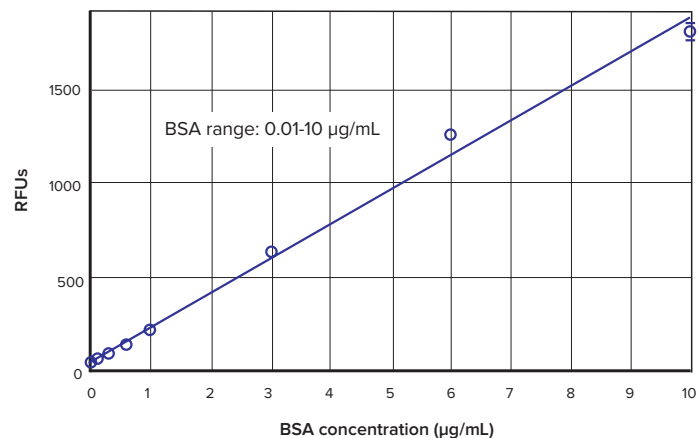
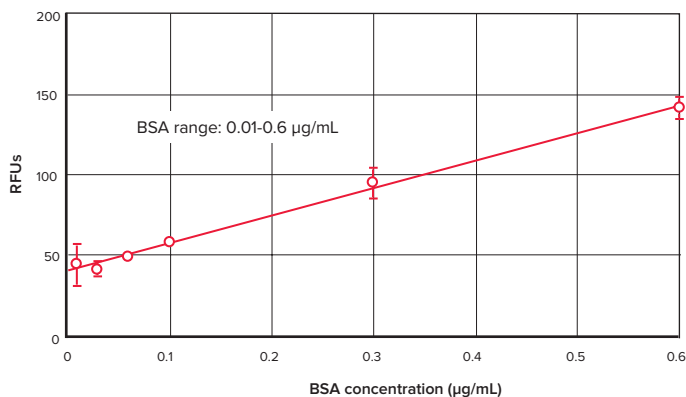

Figure 3. NanoOrange standard curve. Standard curve obtained using BSA standards and a linear curve fit.
Figure 4. Standard curve low end detail. Detail of the lower end of the standard curve shown in Figure 3.
Step 2: A standard curve will be plotted automatically, as long as the pre-configured protocol is used and the appropriate wells are assigned to the Standards group in the Template Editor. Choose the appropriate curve fit from the drop-down Curve Fit menu in the graph section’s tool bar. When plotting the standard curve shown in Figure 3, a linear curve fit was used.
Figure 3 shows the standard curve obtained using the NanoOrange Protein Quantitation Kit with the BSA standard provided in the kit. The low end of the standard curve is shown in Figure 4. Similar data and curves are produced using other SpectraMax readers with fluorescence detection mode (data not shown).